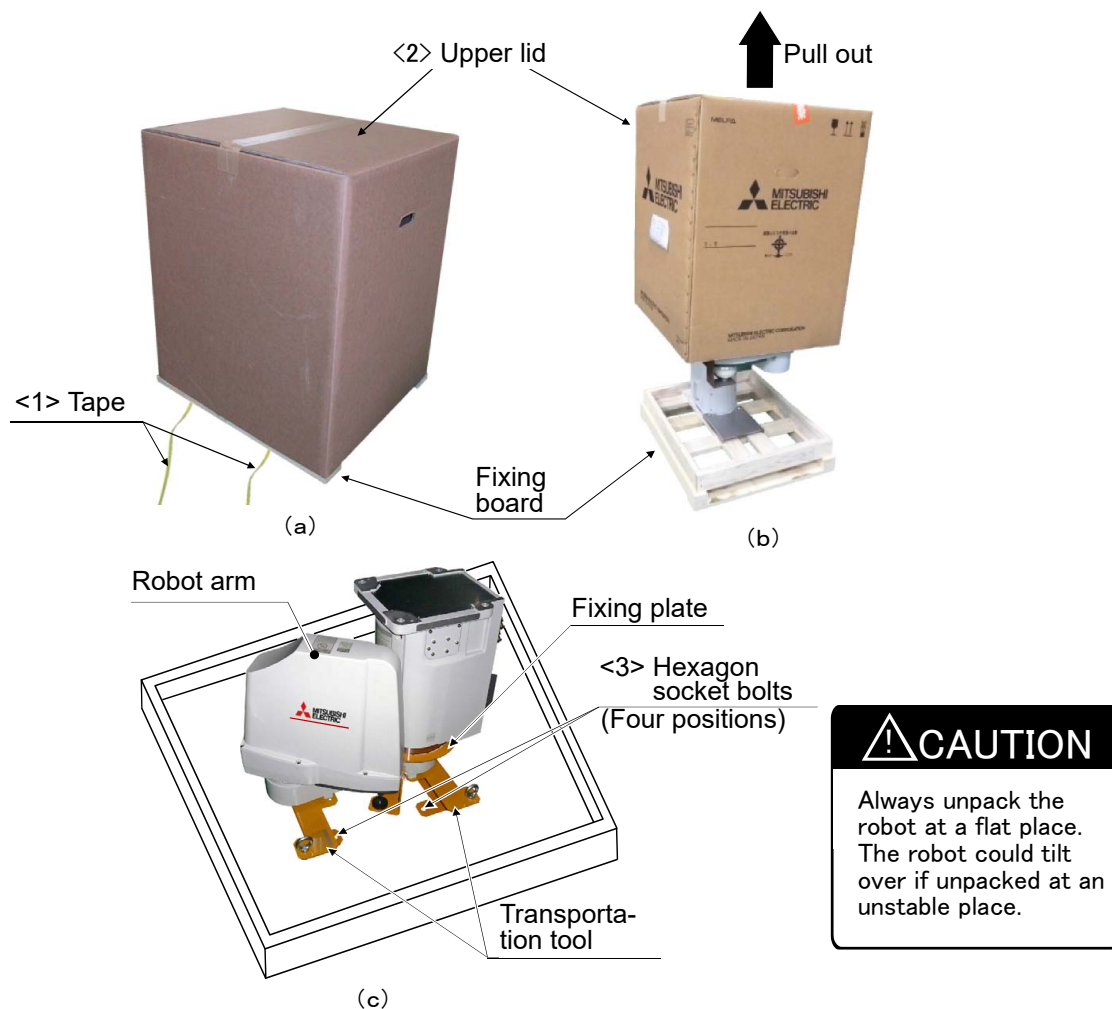

Fig.2-1 : Unpacking the robot arm
The robot is shipped from the factory in cardboard and plywood frame packing. Always refer to Fig. 2-1 and unpack the robot.
- 1) Using a knife, etc., slit the tape <1> fixing the upper lid <2> of the cardboard box. (Fig. 2-1 (a))
- 2) Pull the upper lid <2> of the cardboard box off with both hands. (Fig. 2-1 (b))
- 3) Remove the hexagon socket bolts <3> (four positions) which fix the robot. (Fig. 2-1 (c))